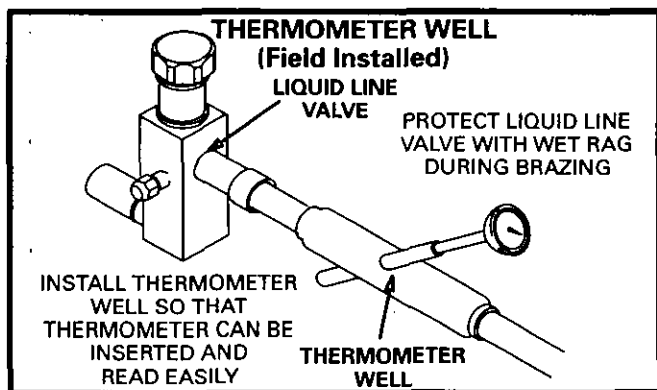

FIGURE 3
- 2- The thermometer well (packaged separately) should be installed in the liquid line close to the HS29 unit as shown in figure 3. Connect thermometer well male end to female end of liquid valve. Take care to install thermometer well so that the thermometer can be inserted and read easily. Wrap a wet cloth around the liquid line valve body and copper tube stub to protect from heat damage during brazing. Wrap another wet cloth underneath the liquid valve to protect the base paint.